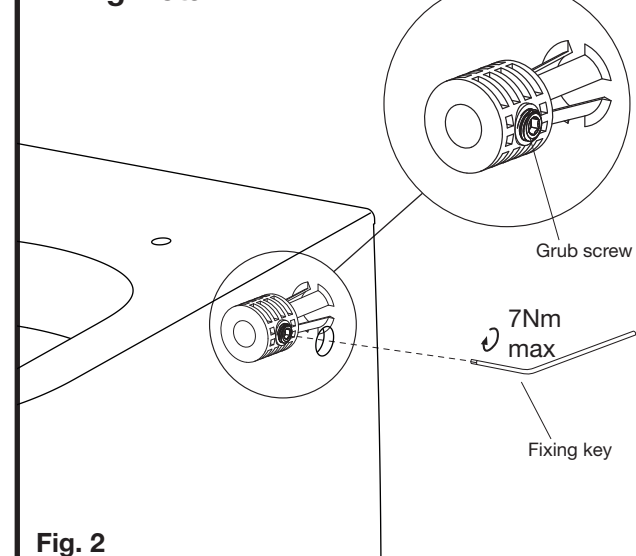

Fig. 2
- 10- Fit the plastic fixing bushes into the holes provided with the grub screw facing the fixing holes in the side of the pan, as detailed in **Fig. 2**.